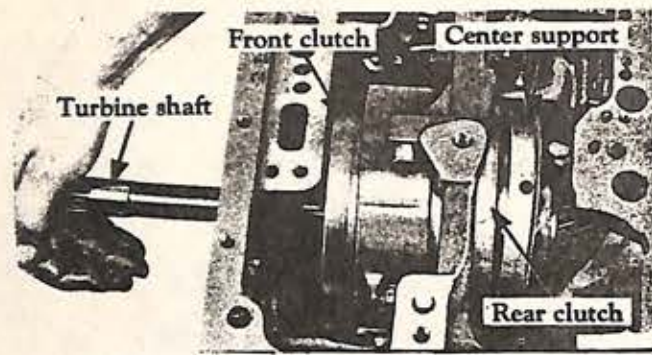

Fig. 55
4. Exert sufficient pressure on the end of the turbine shaft to hold the clutch units together, then remove the center support, front and rear clutch assemblies as a unit (Fig. 55). **CAUTION:** Hold the clutch assemblies together.